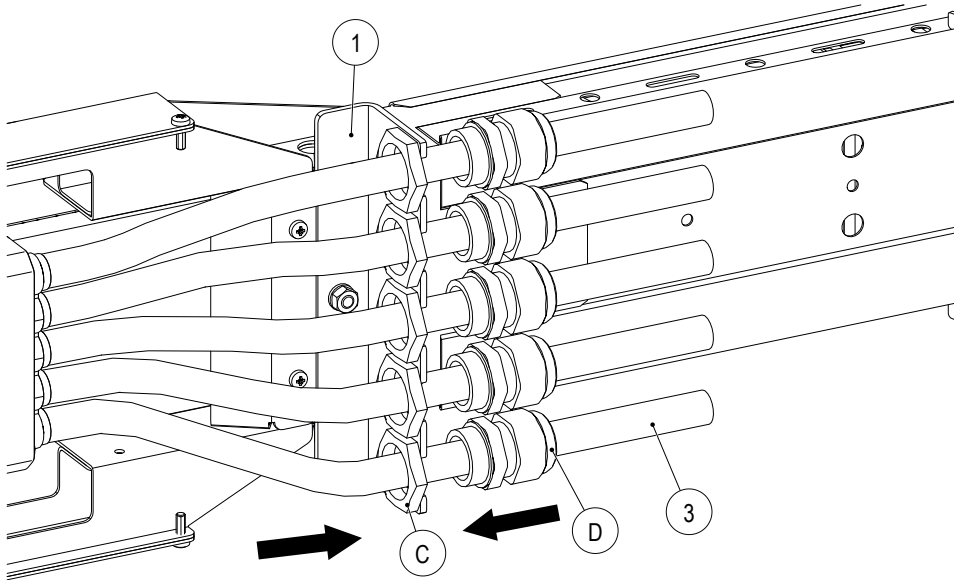

Fig. 80: Screw connecting cables (3) to strain relief plate (1)
6. Fasten the connecting cables (3) to the strain relief plate (1) using the screw connections (D) and their lock nuts (C) (see Fig. 80).